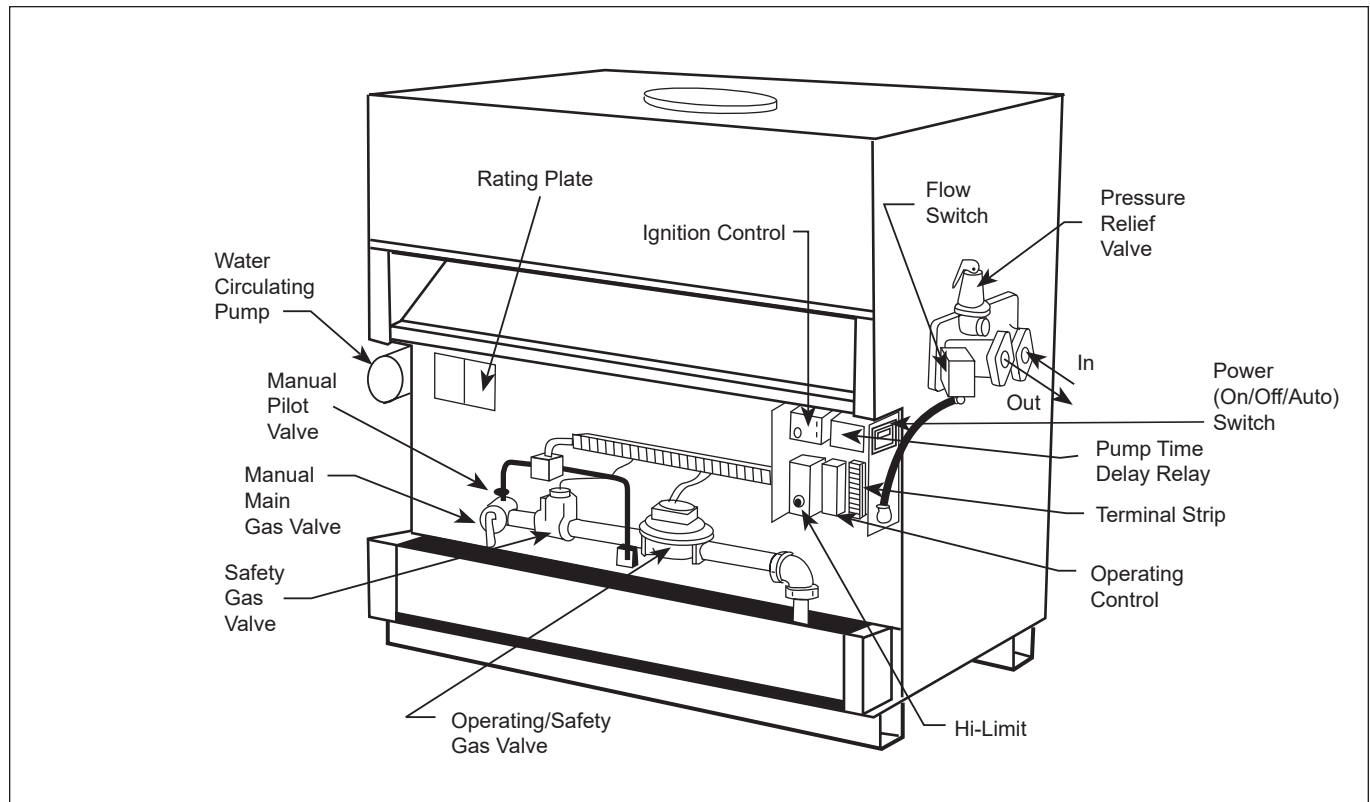

Figure 11. Controls Location.
3.1 Controls - General (see Figures 11 and 12)
7. An adjustable pump time delay relay is mounted in the control panel (see Figure 11). This relay keeps the pump running after the burners shut off. The delay should be set to 5-6 minutes for models 500-850 and 9-10 minutes for models 1010-1825.